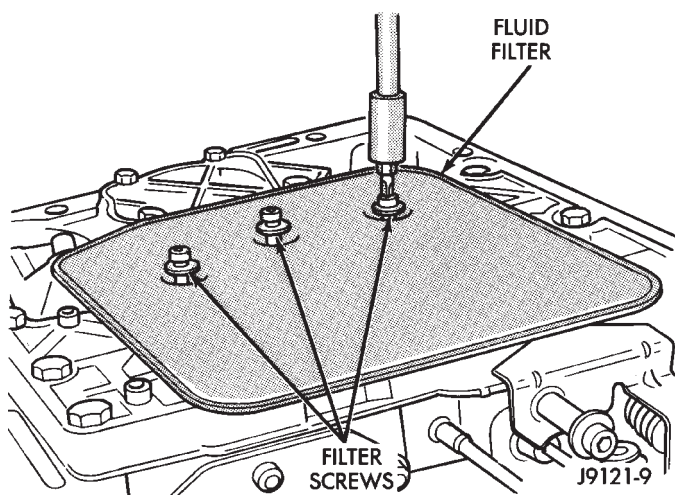

Fig. 157 Fluid Filter Installation
(11) Install new filter on valve body (Fig. 157). Tighten filter screws to 4 N·m (35 in. lbs.).